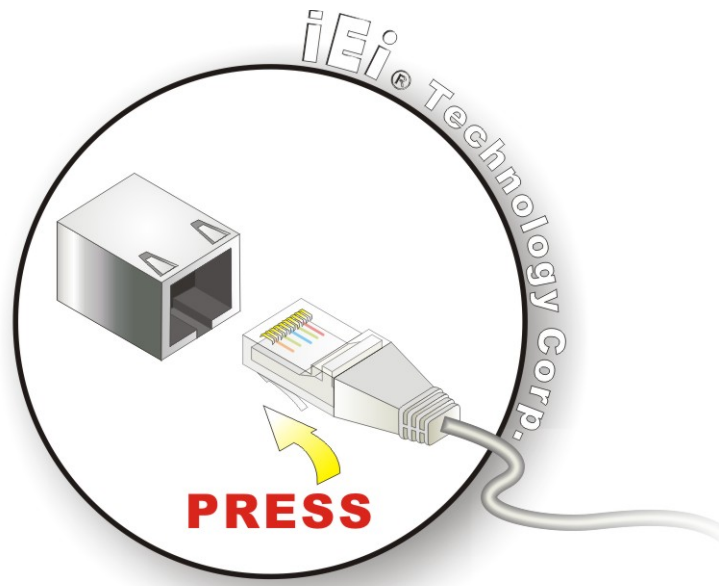

Figure 4-14: LAN Connection
Step 2: Align the connectors. Align the RJ-45 connector on the LAN cable with one of the RJ-45 connectors on the KINO-780AM2. See Figure 4-14.